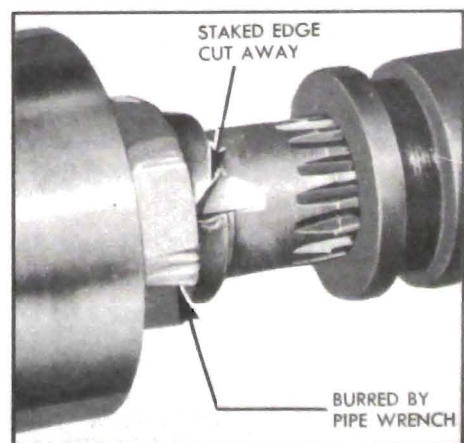

Figure 5-10—Mutilated Bearing Lock Nut
7. Drive up staked section of pinion bearing lock nut with cape chisel and remove nut, gripping pinion shaft on splined end in vise. Do not grip pinion teeth in a vise even though soft jaw liners are used. NOTE: Figure 5-10 shows a bearing lock nut which has been mutilated so that it is unfit for use. The staked edge has been completely cut away instead of being raised, and